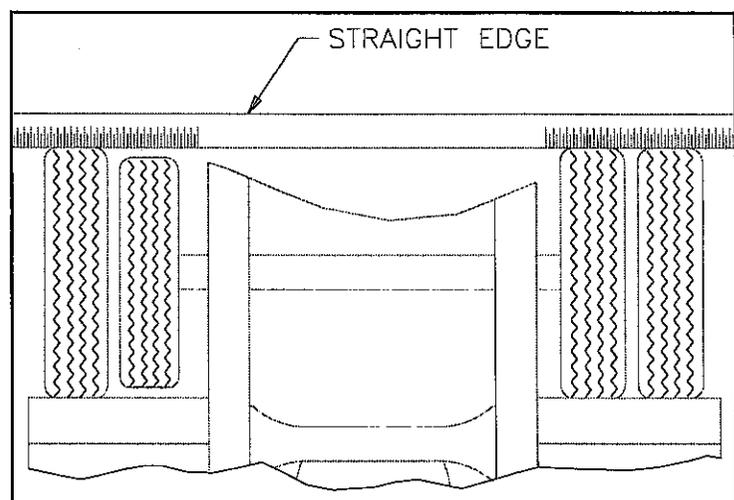

Figure 4-16 Straight Edge Method
b. **Straight Edge or String Method:** (This method cannot be used if tire and wheel assemblies are not mounted on the axle.) Jack trailer up until the wheels are off of the ground. Hold a straight edge against the tires of both ends of an axle. A gap at one tire indicates a smaller tire. A maximum of 1/8" gap is allowed (See Figure 4-16).